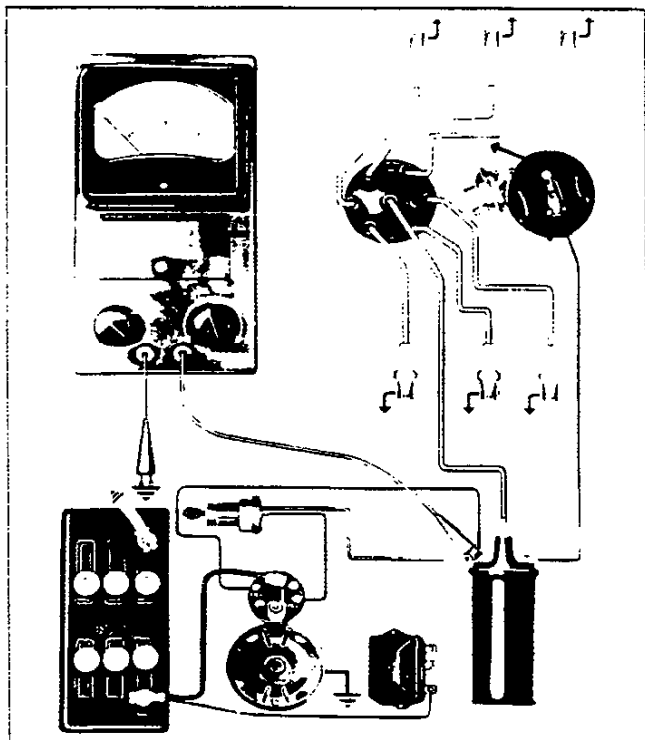

Fig. 13—Cranking Voltage Test Connections
- b. Connect voltmeter to primary terminal on side of coil and to ground (fig. 13).
- With voltmeter connected as described for the Cranking Voltage Test (fig. 13), turn ignition switch to ON. Voltage should drop to 5 to 7 volts as current is now passing through high resistance wire connected between ignition switch and (+) positive terminal of coil. If battery voltage of 12 volts is obtained, the starter solenoid is by-passing the high resistance wire connected between ignition switch and (+) positive terminal of coil and thus the starter solenoid is not functioning properly to by-pass the ignition resistance wire or the ignition circuit is incorrectly wired.